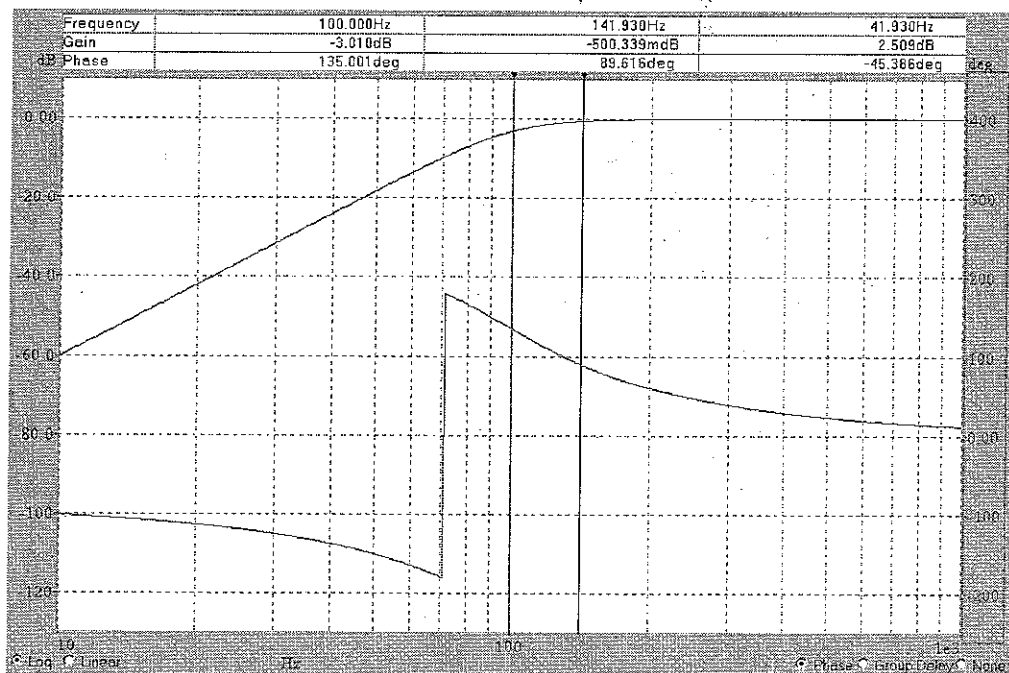

Figure 4.1: Amplitude and phase frequency response of a 3rd order Butterworth high pass filter
- Near the cutoff frequency a significant amplitude error occurs (refer to figure 4.1).
The lower graph in figure 4.1 represents the phase frequency response. The 360° phase jump can only be seen on the diagram for presentation reasons.